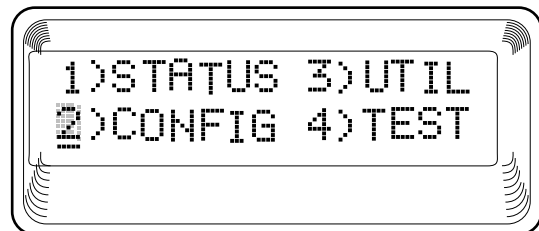

Figure 3-2. Cursor on Menu Item
1. Use the Up and Down arrows to place the cursor on the desired menu item, in this case, **2) CONFIG**. See Figure 3-2.